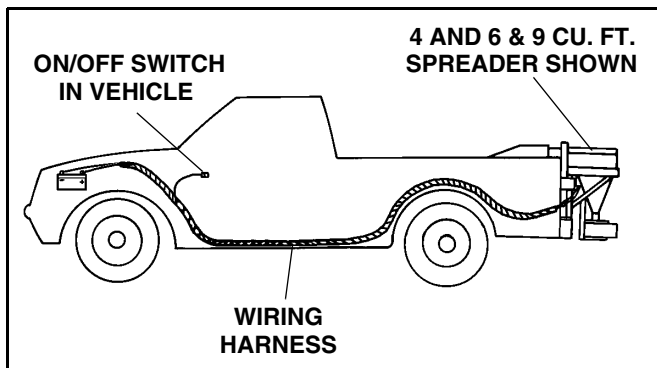

Figure 16
2. Take harness assembly and connect molded connector to vibrator motor. Route harness from the vibrator motor installation point, along the vehicle frame, to the front of the vehicle (See Figure 16).